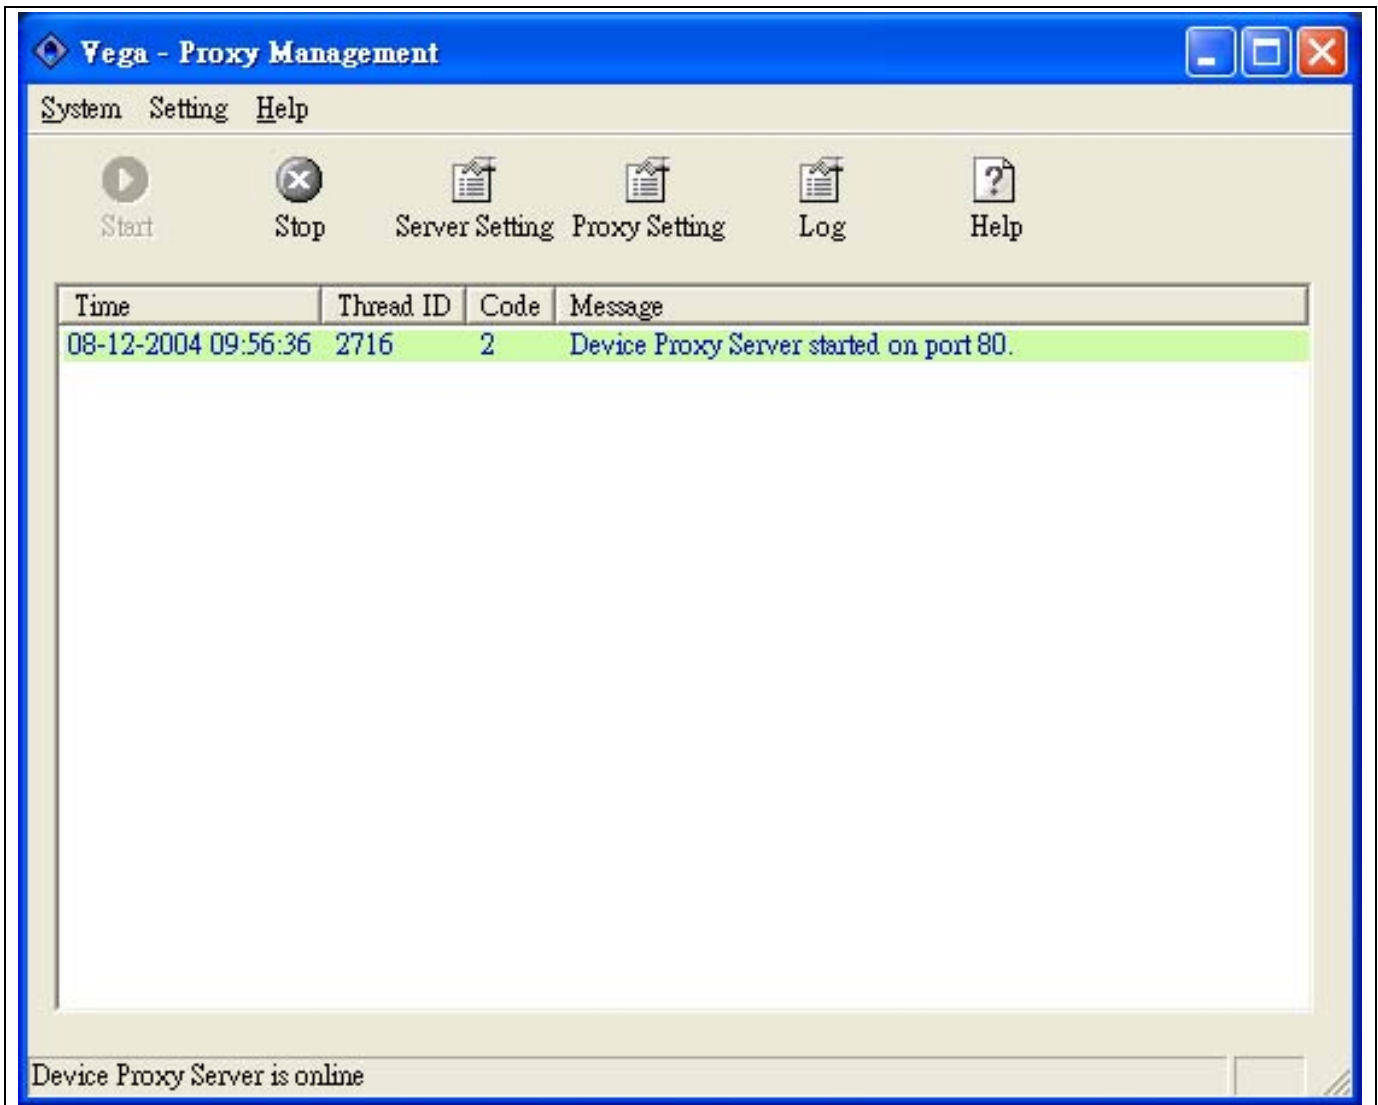

Fig 4-2
C. The program will show.(Fig 4-2)